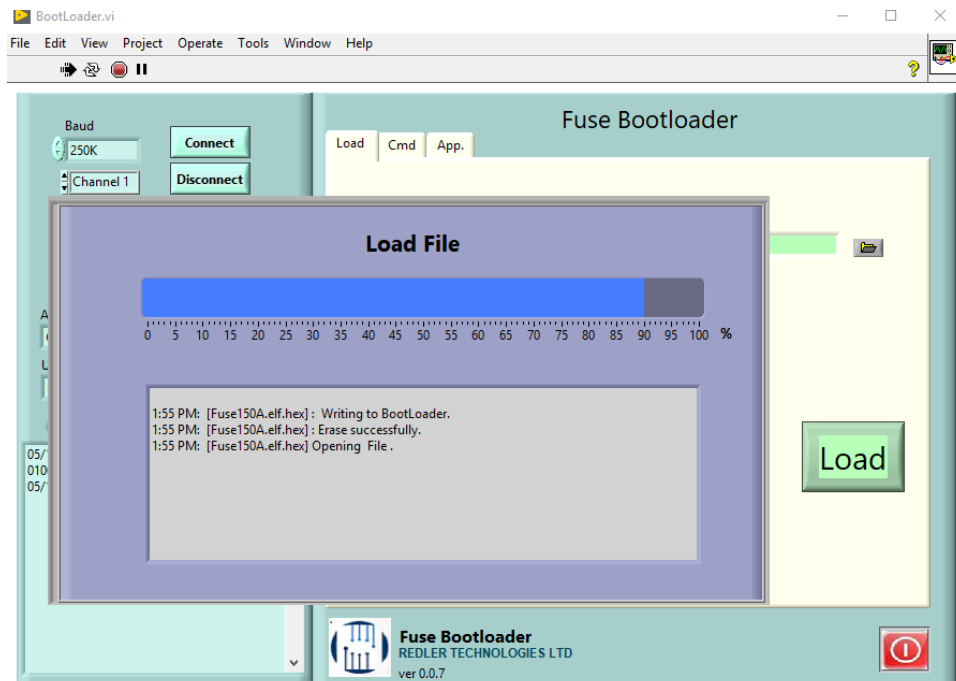

Figure 39 Bootloader GUI step 5
8. Load process finished successfully (see fig. 39).